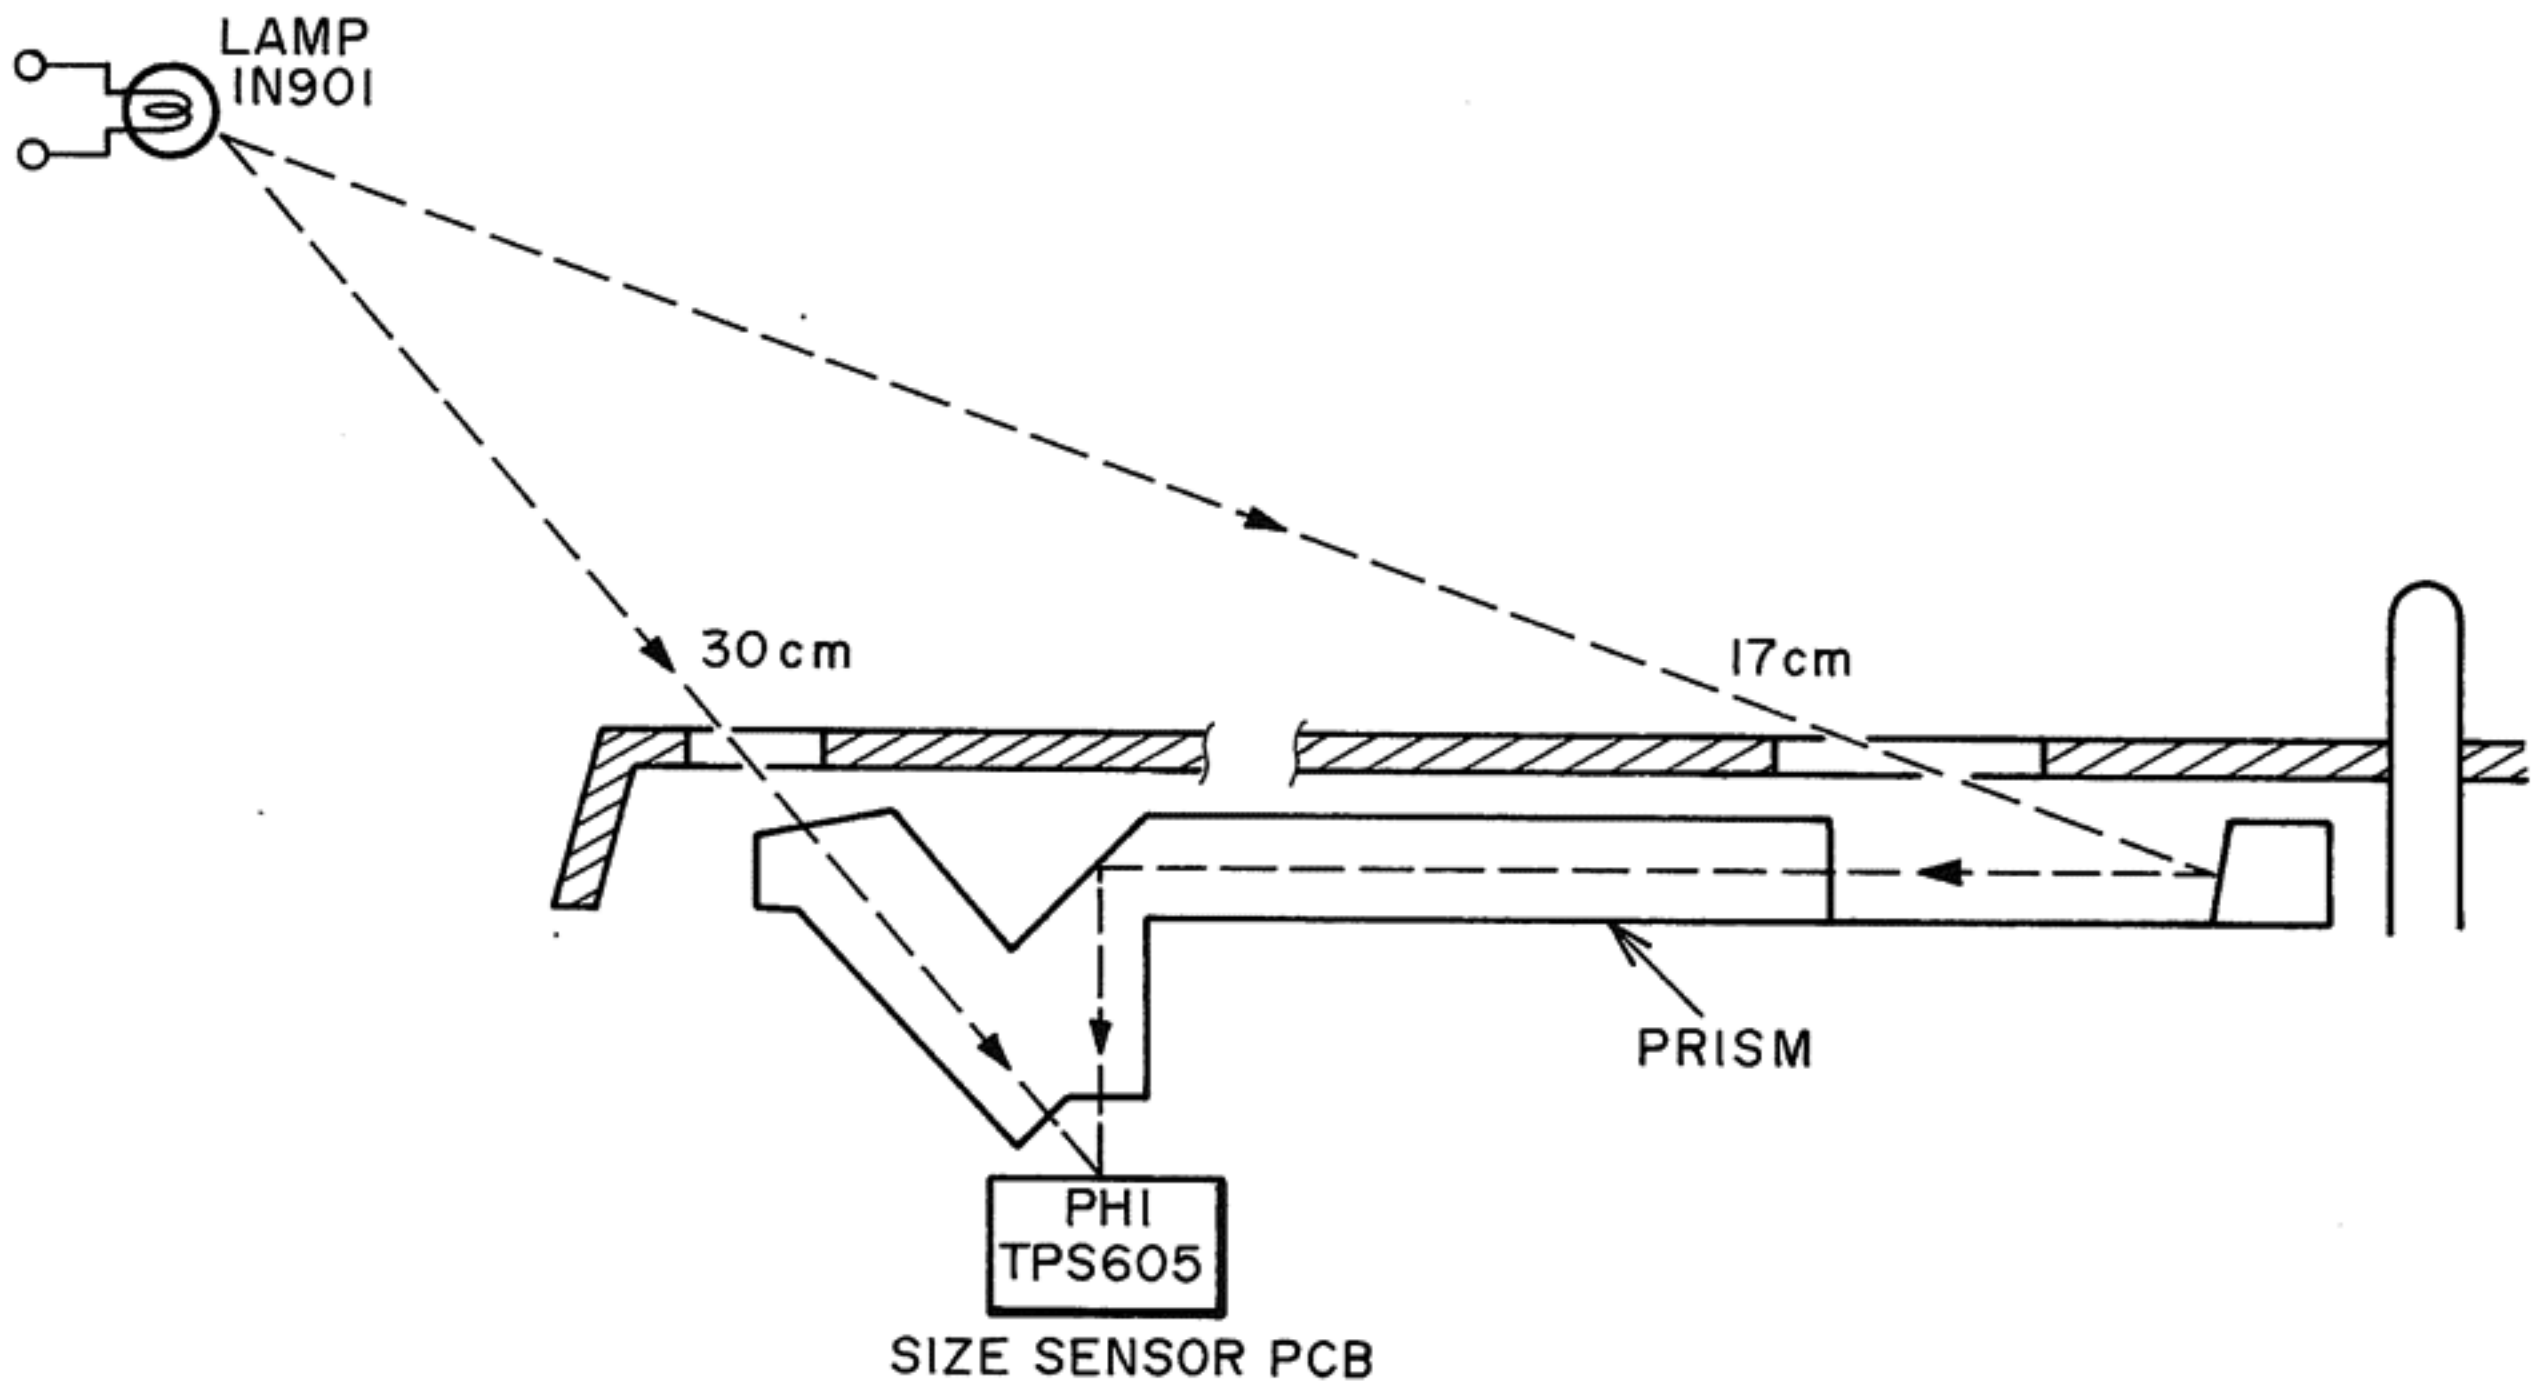

Fig. 14 Size Detection
- 4) As IC5 ⑳ is changed to "L", IC5 ⑪ also changes to "L", TR30 and TR31 are turned on and LAMP (IN901) is lit to illuminate the record. The record size (30 cm, 17 cm or no record) is judged by checking whether or not the light from lamp (IN 901) strikes the hole on the platter and, then, the number of revolution of main motor is determined. (Refer to Fig. 14.)